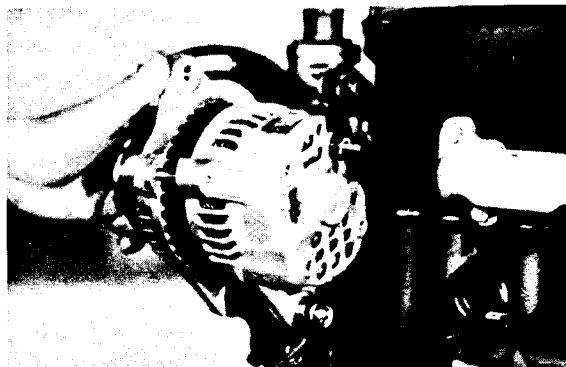

Figure 25
4. Loosen alternator brace bolt and alternator support bolt (Fig. 25). Push the alternator toward the engine and remove the belt.